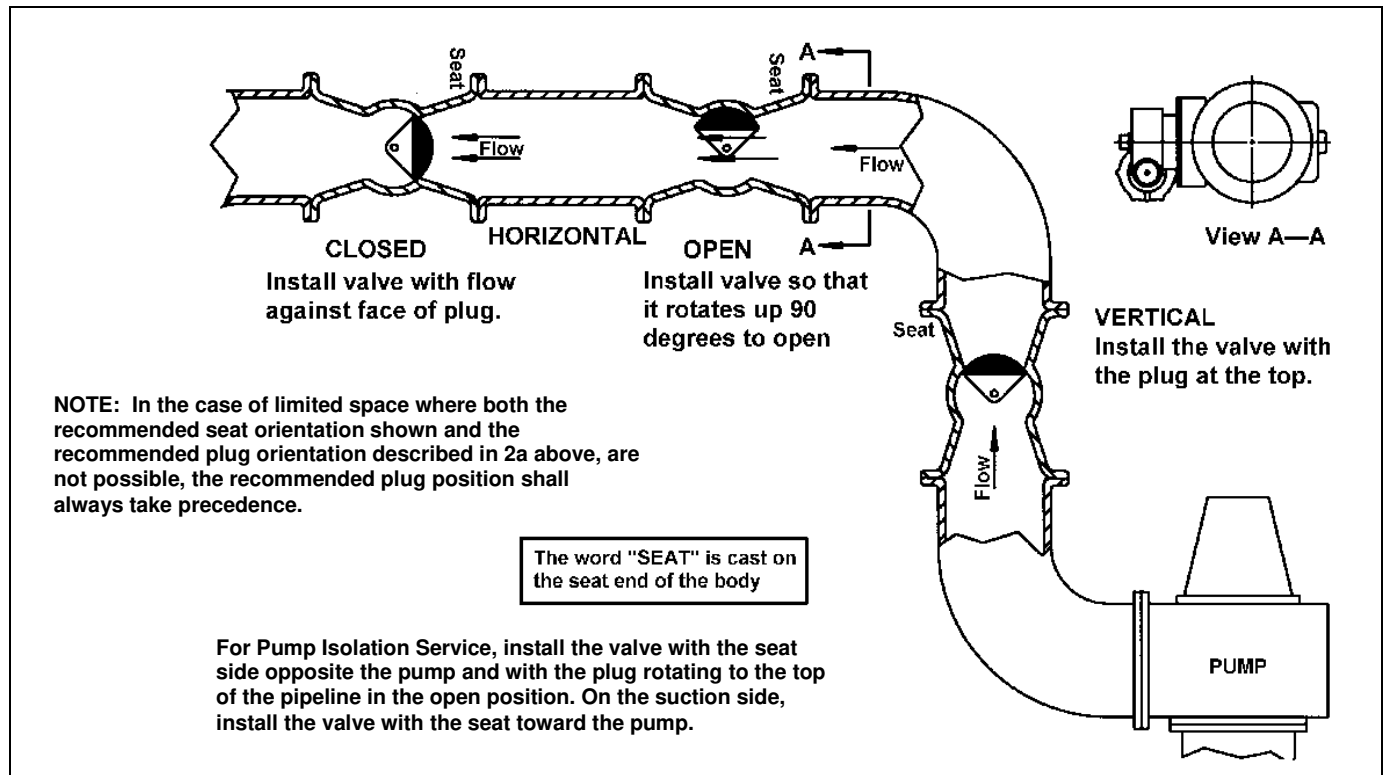

Figure 2 — Liquids with Suspended Solids
2. Install the valve as shown in Figure 2.